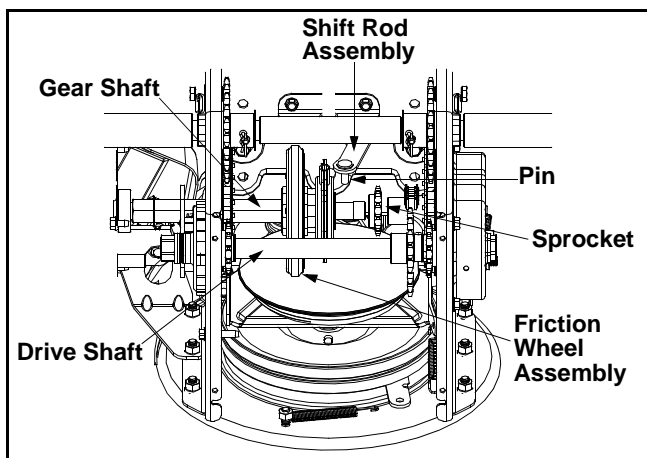

Figure 23
- Holding the friction wheel assembly, slide the hex shaft out of the left side of the frame. The spacer on the right side of the hex shaft will fall and the sprocket should remain hanging loose in the chain. See Figure 23.